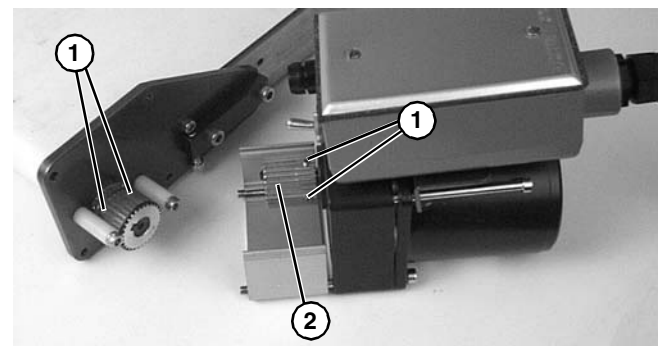

Figure 21
2. Loosen set screws (Figure 21, item 1) and remove drive pulley (Figure 21, item 2).
3. Replace drive pulley (Figure 21, item 2) on new gearmotor and tighten set screws (Figure 21, item 1) to 33 in-lb (3.7 Nm).